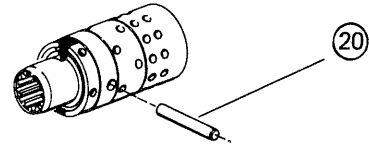

Fig. 140
- (8) Hold six springs (19) with hand, push them into spring notches together with the tool.
- (9) When springs (19) have been put into notches fully, make spring ends even, make end of spool (18) and end of sleeve (17) flush each other.
- (10) Put pin (20) into pin hole until flush with sleeve (17) (Fig. 140).